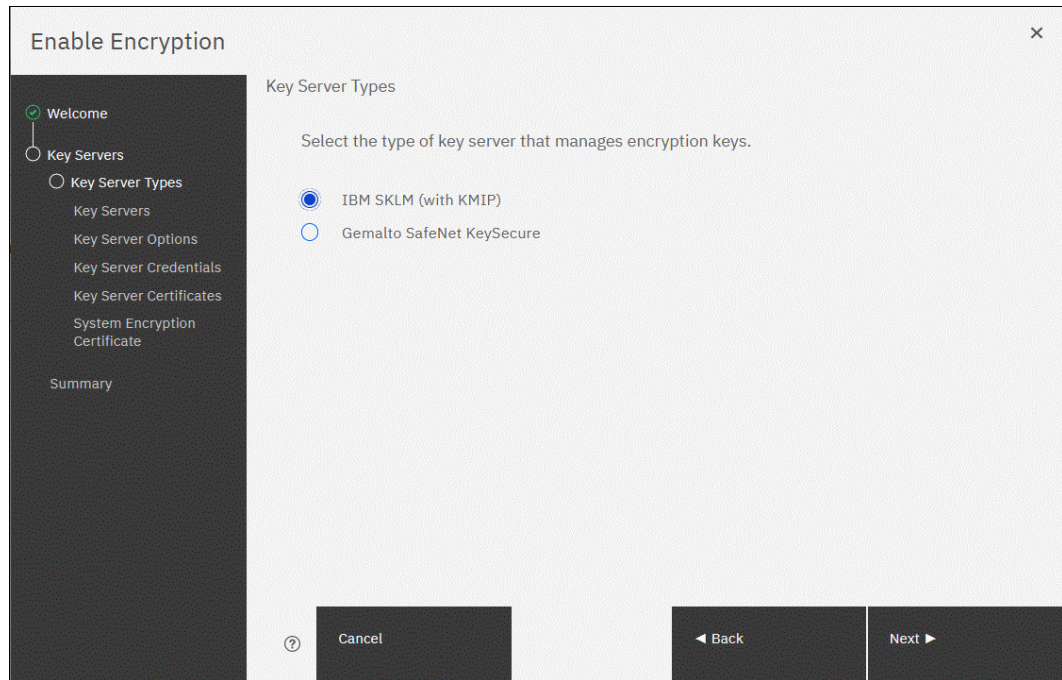

Figure 12-30 Selecting IBM Security Key Lifecycle Manager as the key server type
3. Select **IBM SKLM (with KMIP)** as the key server type, as shown in Figure 12-30.